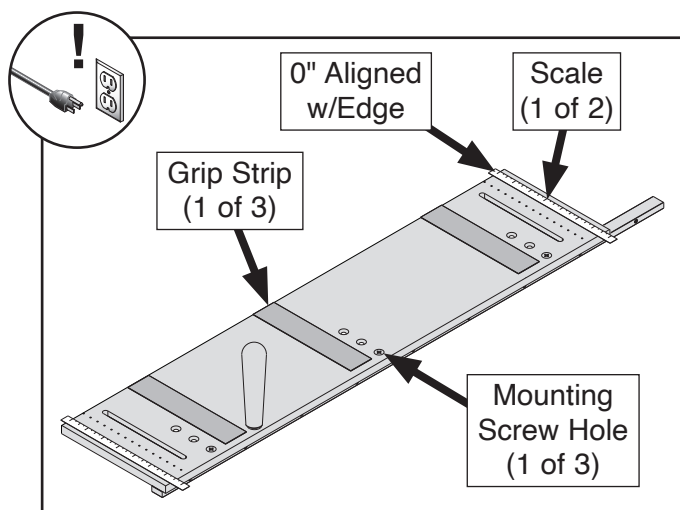

Figure 11. Scales and grip strips affixed to jig.
20. Remove backing from (2) adhesive scales and (3) adhesive grip strips and apply them to jig, as shown in **Figure 11**. 0" on scales and left edges of grip strips should be aligned with left edge of jig base.
IMPORTANT: Do not cover miter bar mounting screw holes with grip strips (see **Figure 11**).